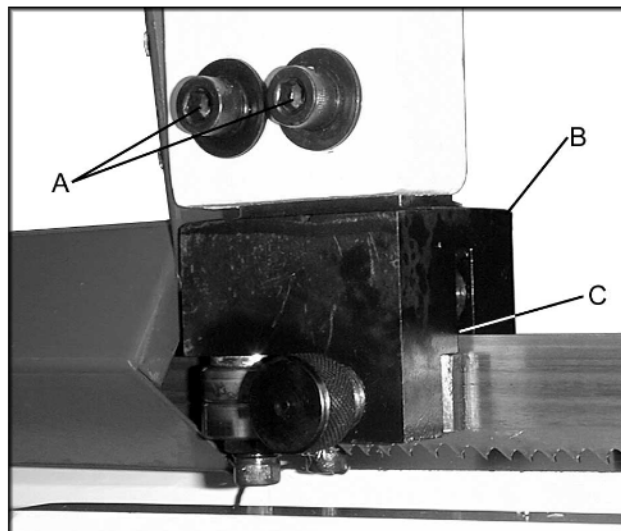

Fig. 9
2. Loosen two hex socket cap screws (A, Fig. 9).
3. Move guide seat (B, Fig. 9) up or down until an approximate clearance of .003" between blade and bearing is obtained, (C, Fig. 9).
4. Tighten two hex socket cap screws (A, Fig. 9).